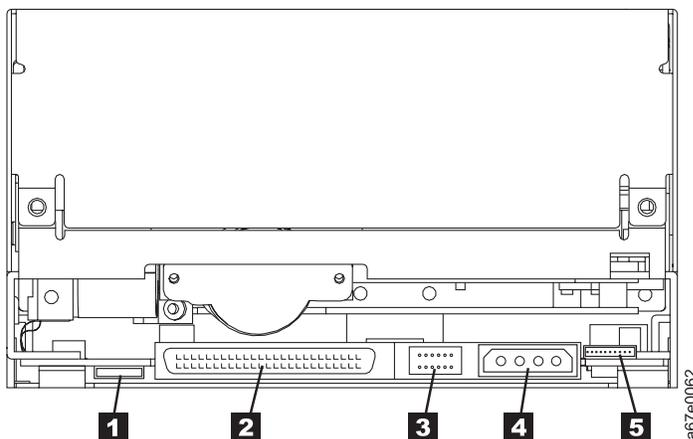

Figure 18. Rear view of the IBM 200/400GB LTO-2 Tape Drive
5. Disconnect the internal power cable from the power connector (see **4** in Figure 18).